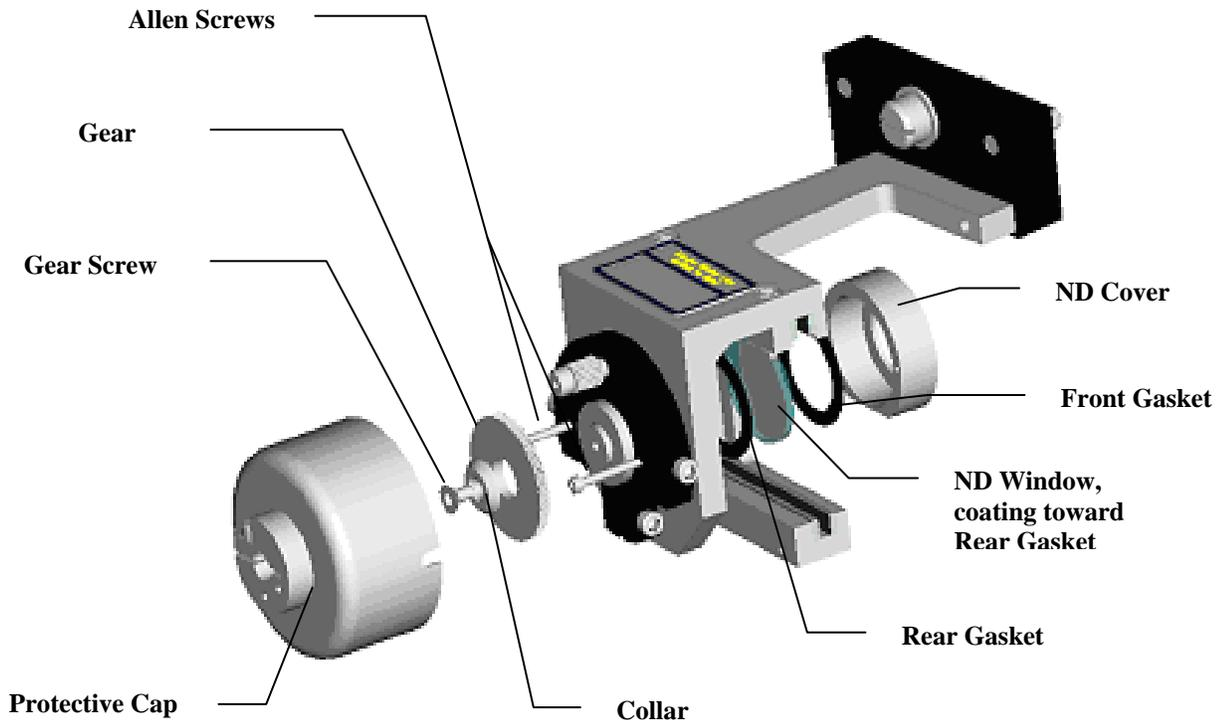

Figure 8-6
1. Loosen the cap screws and remove the cover that protects the Iris Adjustment Mechanism. See Figure 8-6.
2. Remove the gear screw, collar and gear. See Figure 8-6.
3. Remove the 2 Allen head screws holding the ND Cover. See Figure 8-6.
4. Remove the ND cover, front gasket, ND window and rear gasket. See Figure 8-6.
5. Re-assemble the rear gasket, new ND window, front gasket and ND cover as shown in Figure 8-6. *Note: The ND window must be installed with the coating side IN toward the rear gasket.*
6. Re-install the gear, collar and gear screw. See Figure 8-6.